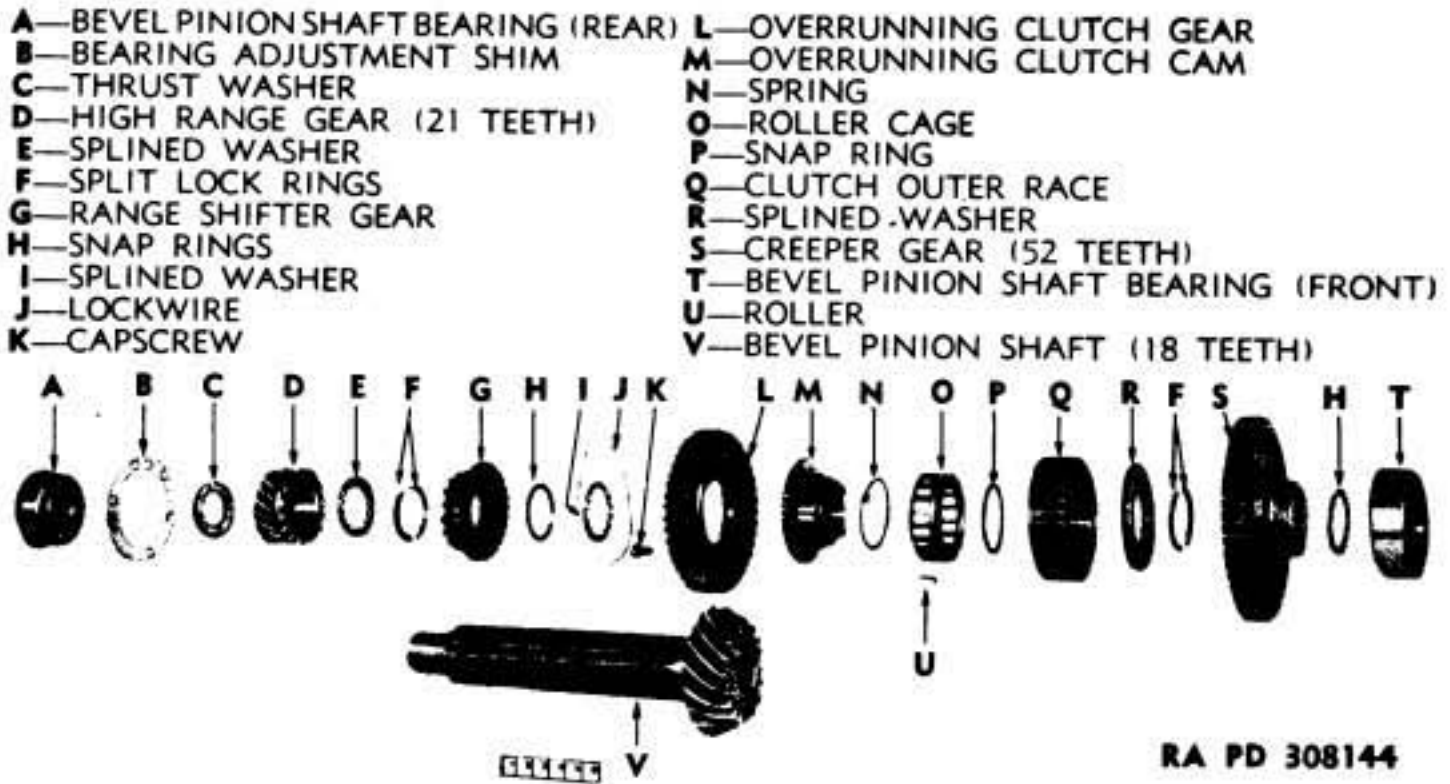

Figure 44 — Bevel Pinion Shaft and Gears Disassembled
(3) **TRANSMISSION SHAFTS** (figs. 44 and 45). Check shafts for straightness and general condition. Try bearings on their respective shafts. All bearings must fit on shafts with a light press fit. Make sure the bearing surfaces on shafts are smooth and that there are no burrs preventing bearing from fitting tightly against shoulders on shafts. Try all gears on their respective shafts to make sure they slide easily in the shaft splines. If splines are badly worn or damaged by the gears, replace gears or shafts. Make sure all snap rings and snap ring grooves are not worn or rounded to the point where snap rings may be broken or slip out of grooves. Make sure all threads in transmission case or transmission shafts are clean and in good condition.